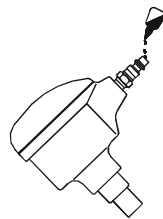

Figure 2
1. Determine if the tool needs oil and, if necessary, place two drops of oil in the AIR PLUG(22) as shown in Figure 2. If you are using an automatic in-line oiler, check and add oil if necessary.